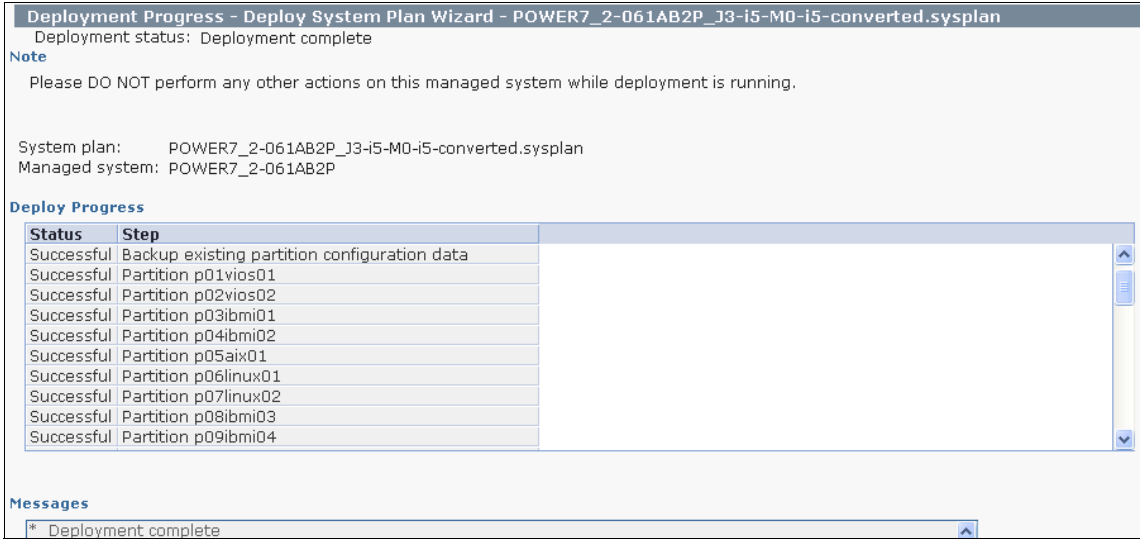

Figure H-12 The Deployment Progress window
12. When the preparation steps have been completed, click **Deploy** to start the deployment. The deployment progress is logged as shown in Figure H-12.